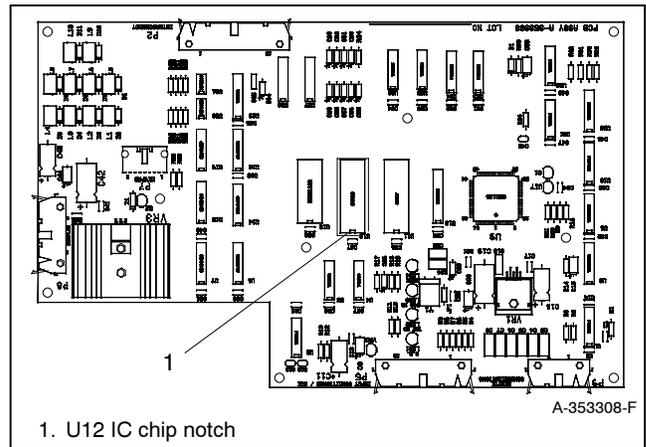

Figure 8 Power Monitor IC Chip Location and Orientation
- 12.2 Locate IC chip U12 on the main logic circuit board. See Figure 8.